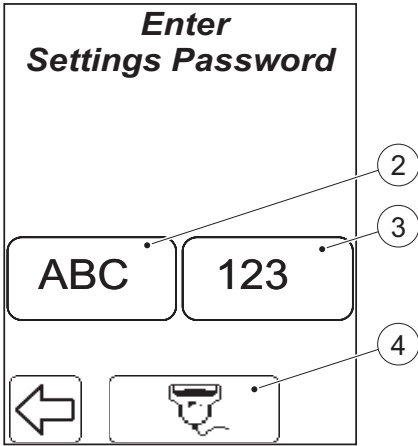
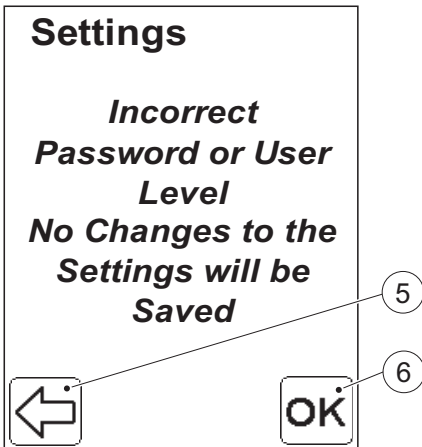
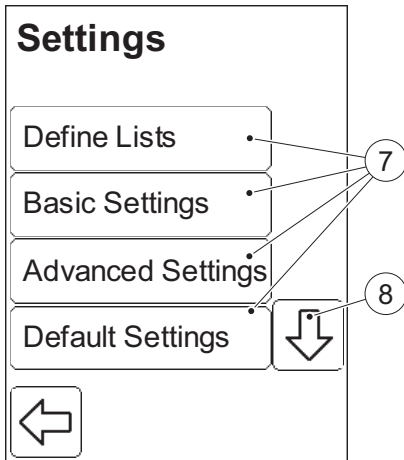

FIGURE 3-2
FIGURE 3-3
FIGURE 3-4
- a) In the Main Menu, press the Settings button (1).
- b) If the requirement for Operator ID entry is set to "Not Used" (see 3.4.1 *General Settings*) FIGURE 3-2 will be displayed, as this is a password protected function. Two other screens may be displayed, dependent on the setting for entry of the Operator ID:
If the operator's user level does not permit access to Settings, FIGURE 3-3 will be displayed.
If the operator's user level permits access to Settings, FIGURE 3-4 will be displayed.
- c) Enter the Settings Password (default value is "0000"), either directly on the Display via the Text mode (2) and Numeric mode (3) buttons, or with the Barcode Scanner via the Barcode Scanner button (4).
- d) If the wrong password is entered, *FIGURE 3-3* will be displayed. If the correct password is entered *FIGURE 3-4* will be displayed.
- e) Pressing the Previous image button (5) will result in a return to, either the Main Menu (if the operator's user level does not permit access to the Settings), or *FIGURE 3-2* (if the Operator ID is set to "Not Used"). Pressing the Confirm button (6) allows the Settings to be viewed only. *FIGURE 3-4* will be displayed.
When the Define Lists button is pressed in the Settings menu (see *FIGURE 3-4*), the following Define Lists categories (1) are displayed: